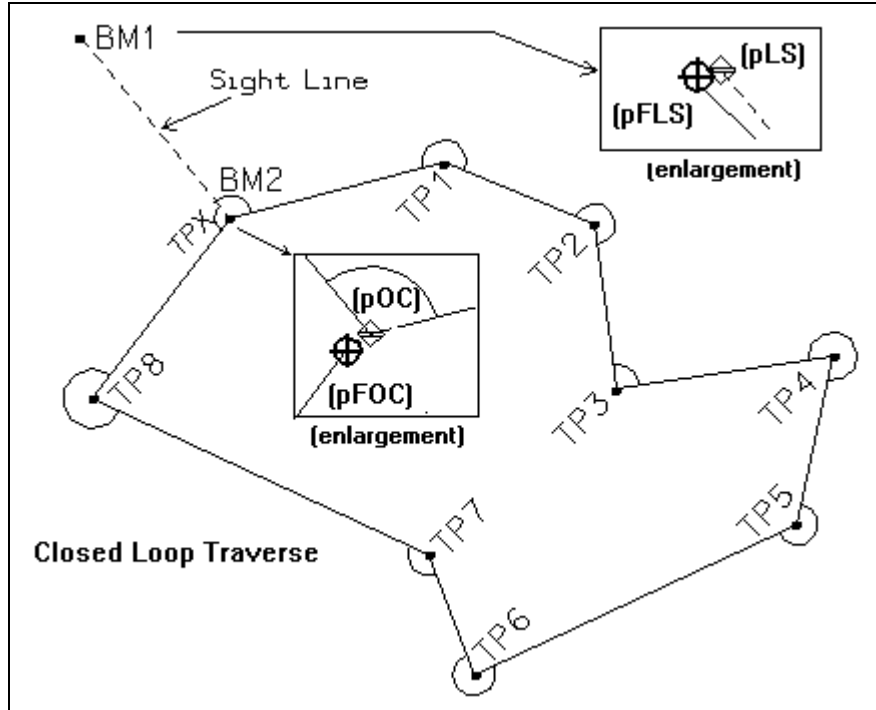

Figure 16.12: Compass Closure Example 1 Traverse
7. Accept or reject the report displayed (as set in the [Parameter File] - [Output Options]) displaying the traverse directions of the points. This is shown in Figure 16.12 in the Example section.
This example uses a closed loop traverse and a sight taken on a fixed point "BM1" to find linear misclosure. The points TPX and TPY are the calculated positions of BM2 and BM1 respectively. The traverse is shown in Figure 16.12 below.